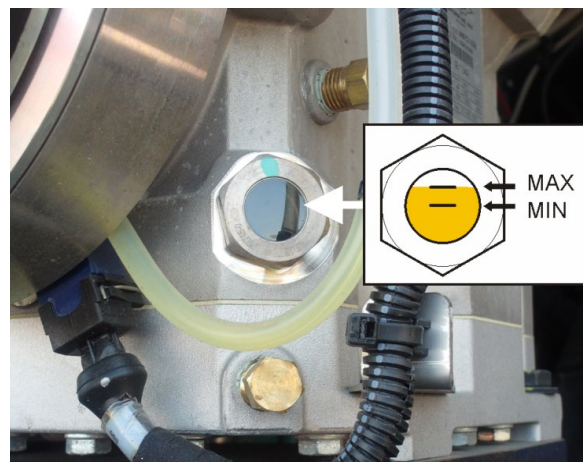

FIGURE 45: R.H. SIGHT GLASS
- R.H. sight glass: between ½ and ¾ of sight glass height (Figure 45).